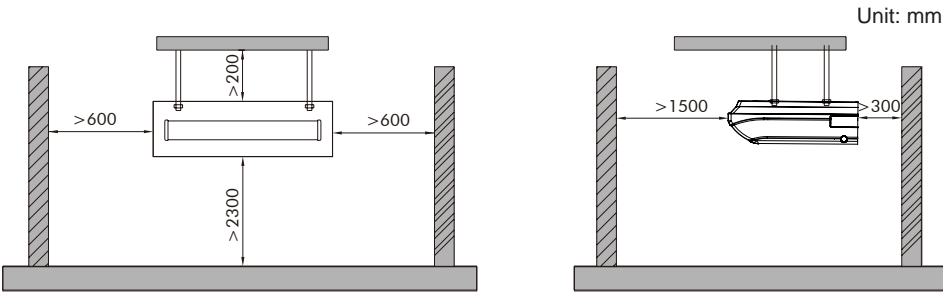

Fig. 2
- (1). Install the unit at a place where is strong enough to withstand the weight of the unit.
- (2). The air inlet and outlet of the unit should never be clogged so that the airflow can reach every corner of the room.
- (3). Leave service space around the unit as required in Fig.2.